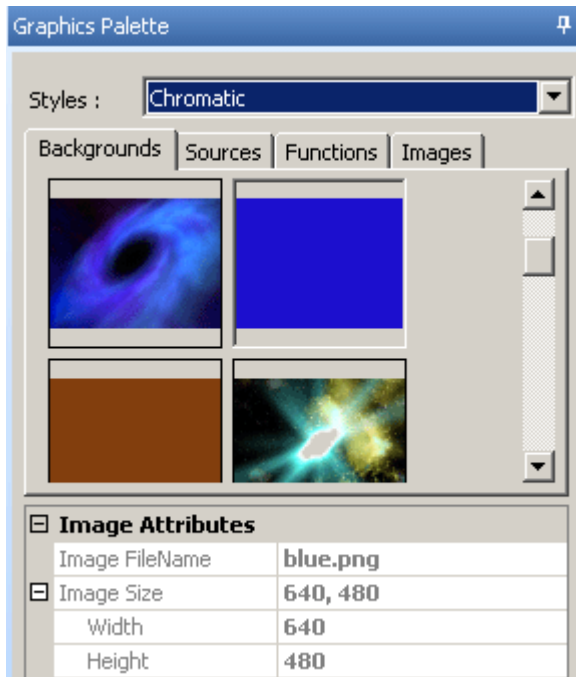

Figure 21 – Selecting Background Style
2. In the **Graphics Palette**, select the **Backgrounds Tab**. The **Background options** for a given style will be displayed in the **Graphics Palette**, with the **Image Attributes** of a selected **Background** indicated directly below. (Figure 21)